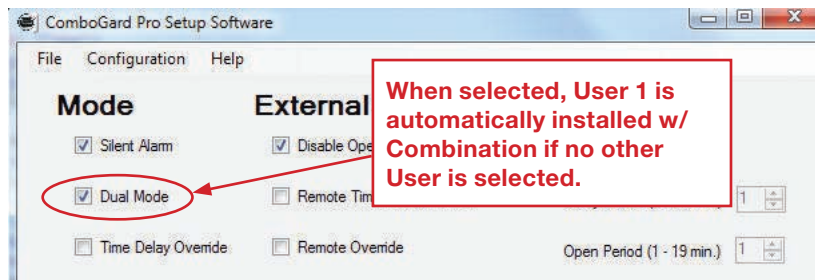

Figure 4
**Dual Mode:** If selected, two combinations are required to operate the lock. At least one additional User with combination must be installed. The software will automatically install User 1 with the default combination 1-1-1-1-1 if no other User(s) are selected for installation (Figure 4).